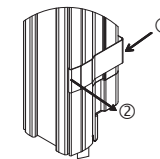

Fig. 4
- (1) Push the Bracket upward. (Fig. 4 ①)
- (2) Release the hook of the Bracket from the Spatter Protection Cover. (Fig. 4 ②)